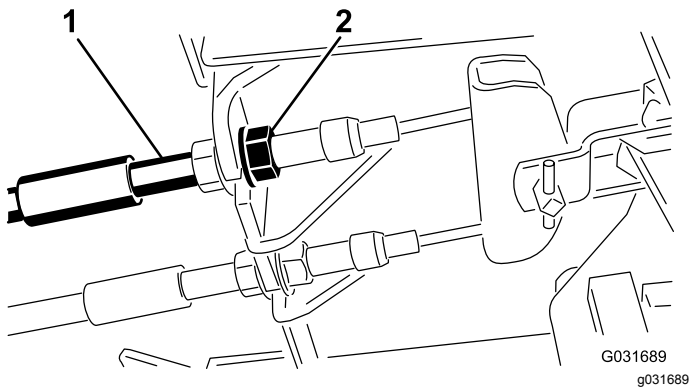

Figure 71
1. To reduce free travel of the brake pedals, tighten the brakes by loosening the front nut on the threaded end of the brake cable (Figure 71).